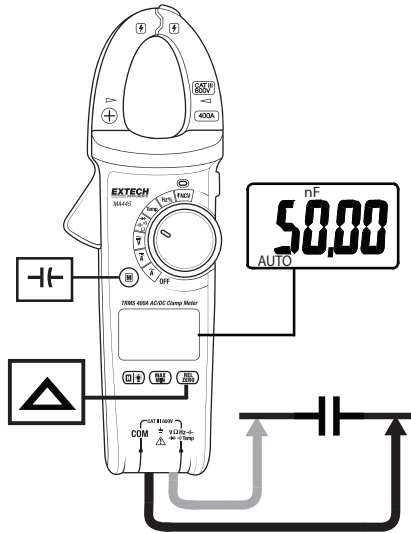

Fig. 9 – Capacitance Measurements
3. Insert the black lead banana plug into the negative (COM) jack. Insert the red test lead banana plug into the positive jack. See Fig. 9.